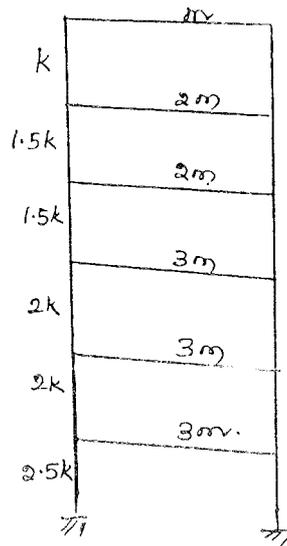

Fig.15(a)
15. (a) An idealised building is excited by ground motion  $u = U \cos \Omega t$ . Find the steady state shear force at the base, considering only the response in the fundamental mode by any numerical procedure (ref. Fig.15.a)